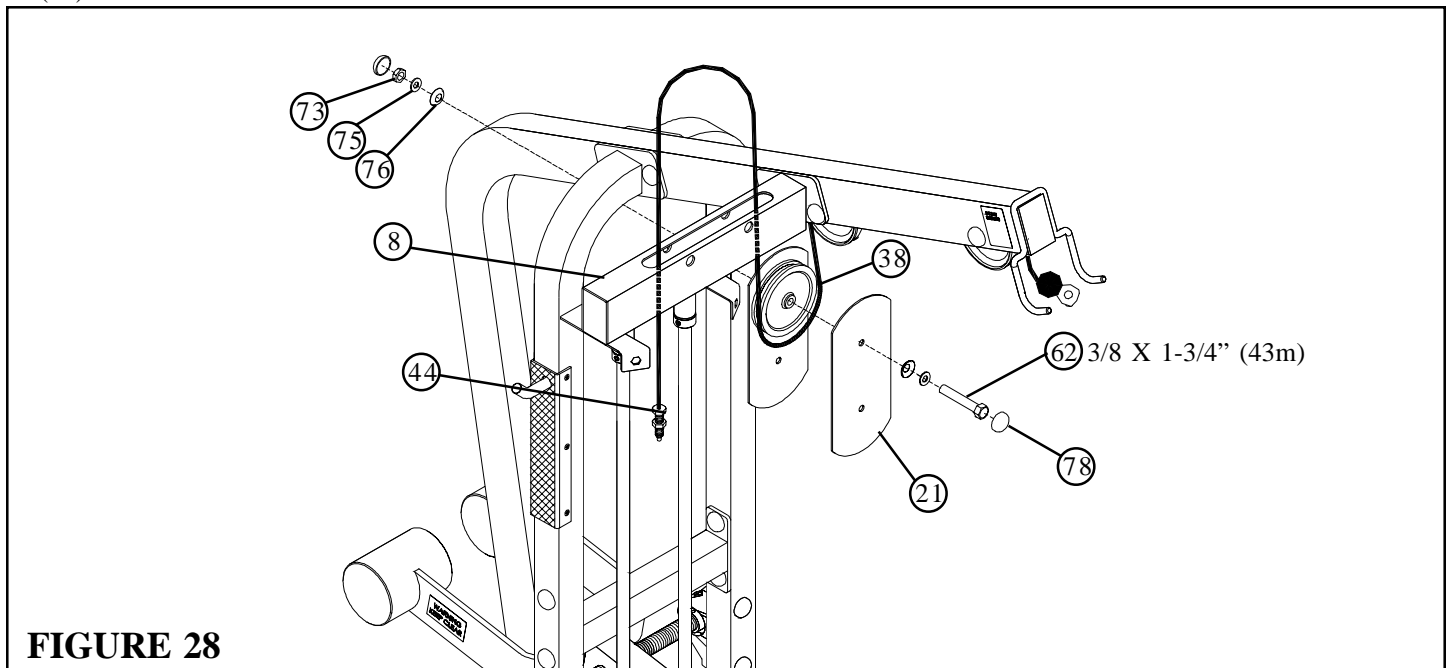

FIGURE 28
- Route the LAT CABLE (44) around one 4-1/2" PULLEY (38) and up thru the STACK BOOM (8). Assemble the PULLEY to two DUAL PULLEY PLATES (21) using two RH CAPS (78), one 3/8 X 1-3/4" BOLT (62), two 3/8" SAE WASHERS (75), two 3/8" RH WASHERS (76) and one 3/8" LOW HEIGHT LOCK NUT (73) as shown in FIGURE 28.